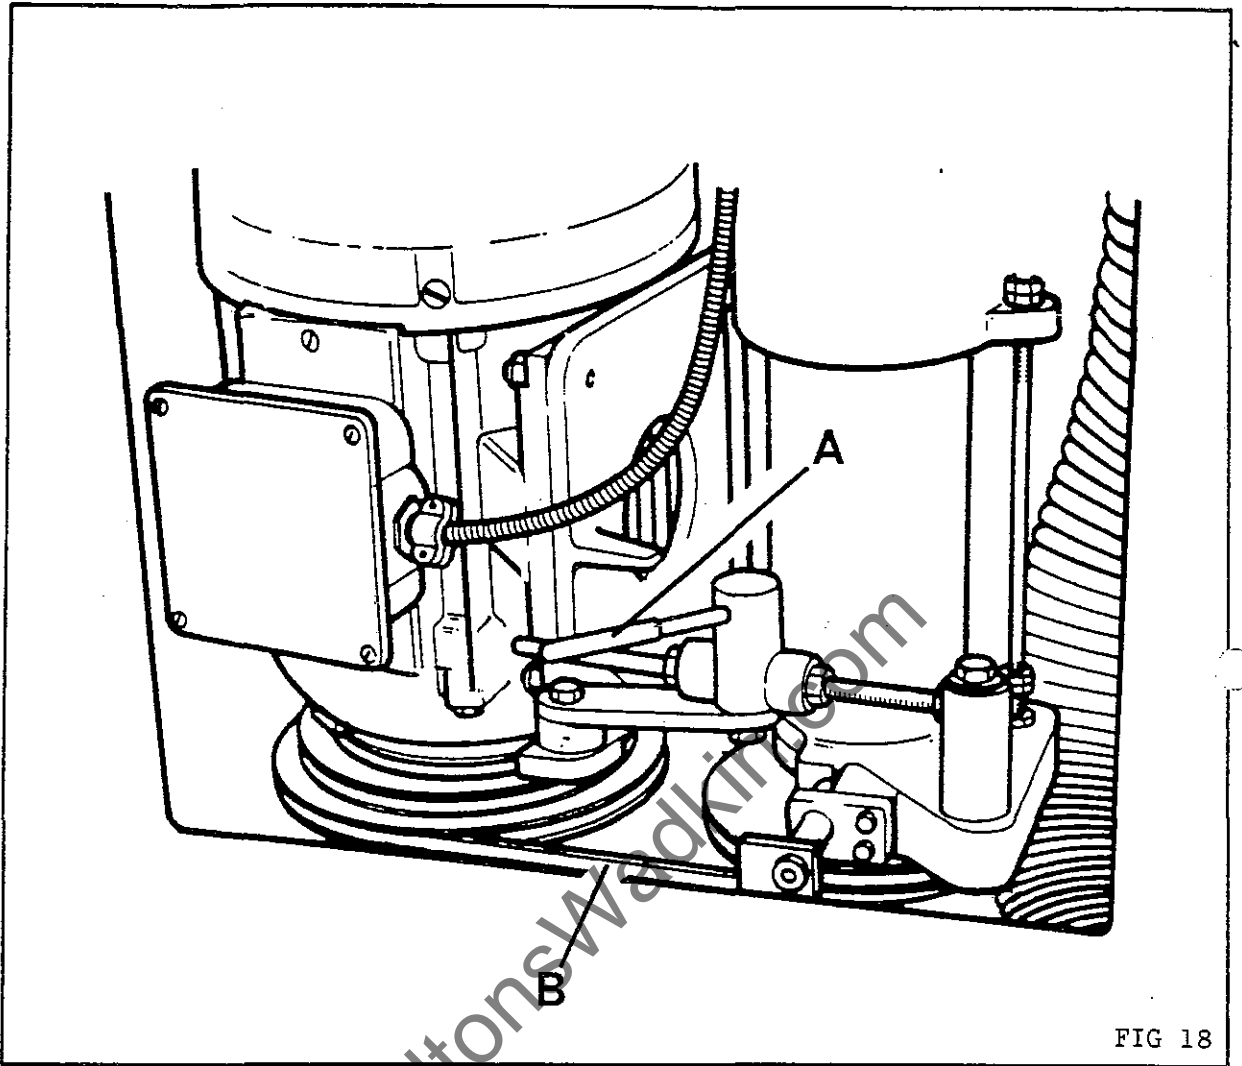

FIG 18
2. Open door on left side of machine for access to spindle drive assembly, SEE FIG 18.